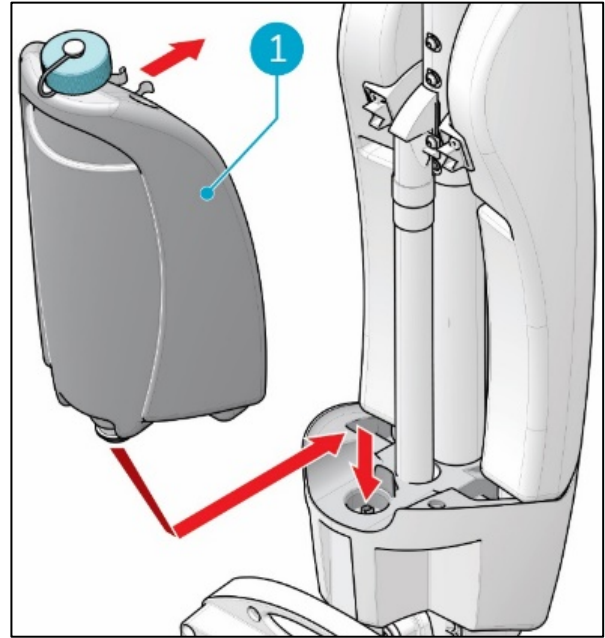

Figure 12
1. Put the tank (Figure 12, pos 1) on the i-mop® XXL basic with the valve first.